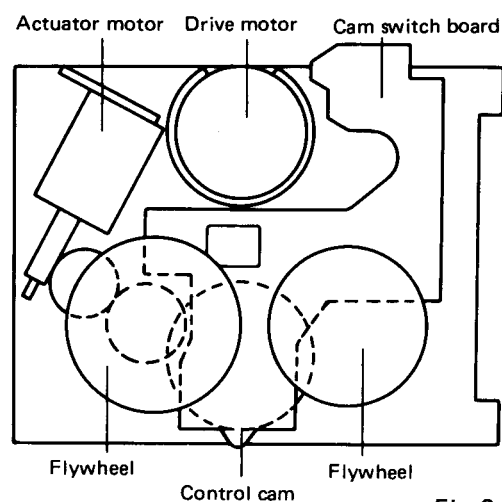
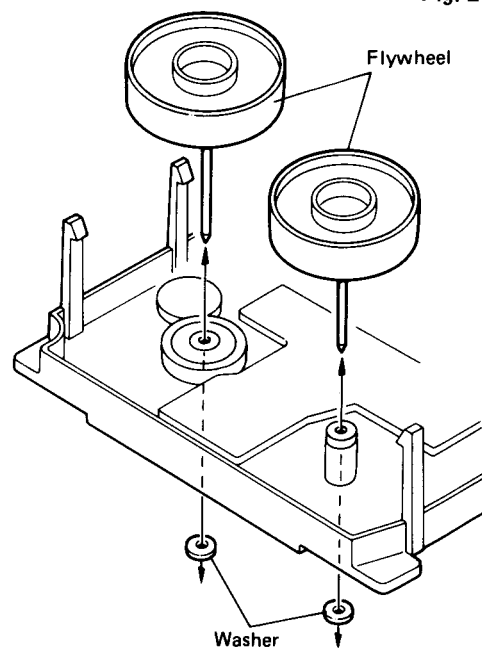
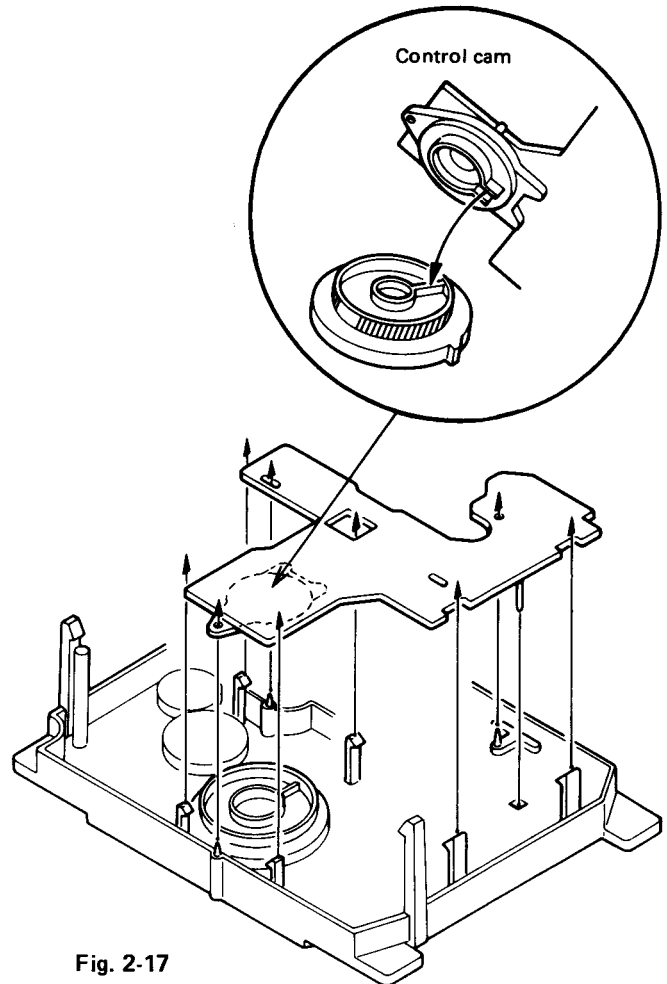
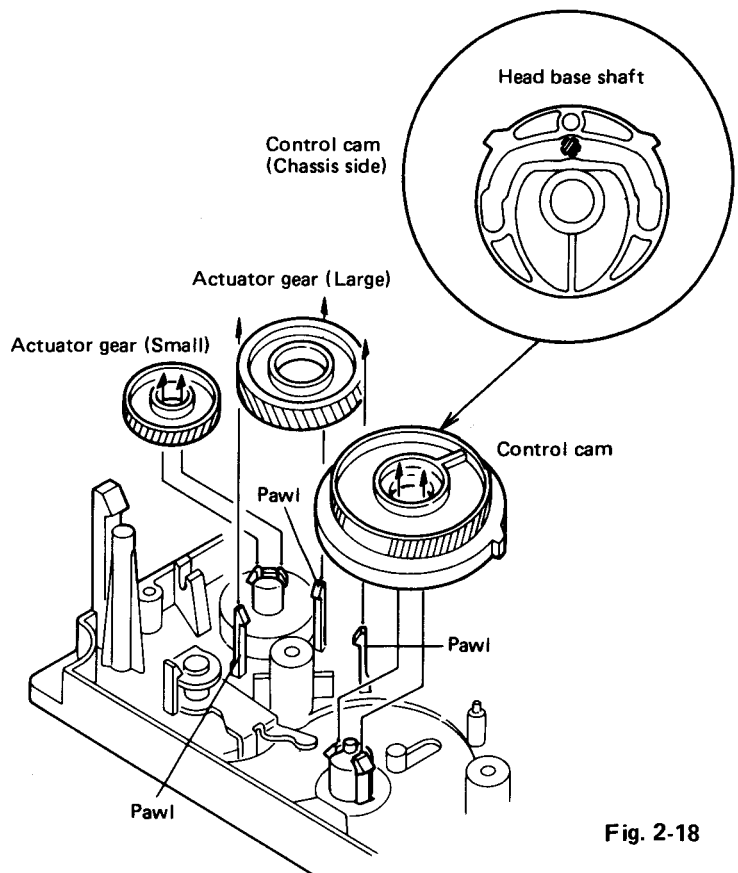

Fig. 2-14
Fig. 2-15
Fig. 2-17
Fig. 2-18
- **Flywheel assembly** (Fig. 2-14, Fig. 2-15)
- **Cam switch board** (Fig. 2-14, Fig. 2-17)
- **Actuator gear (large)** (Fig. 2-14, Fig. 2-18)
- **Control cam** (Fig. 2-14, Fig. 2-18)
- **Actuator gear (small)** (Fig. 2-14, Fig. 2-18)